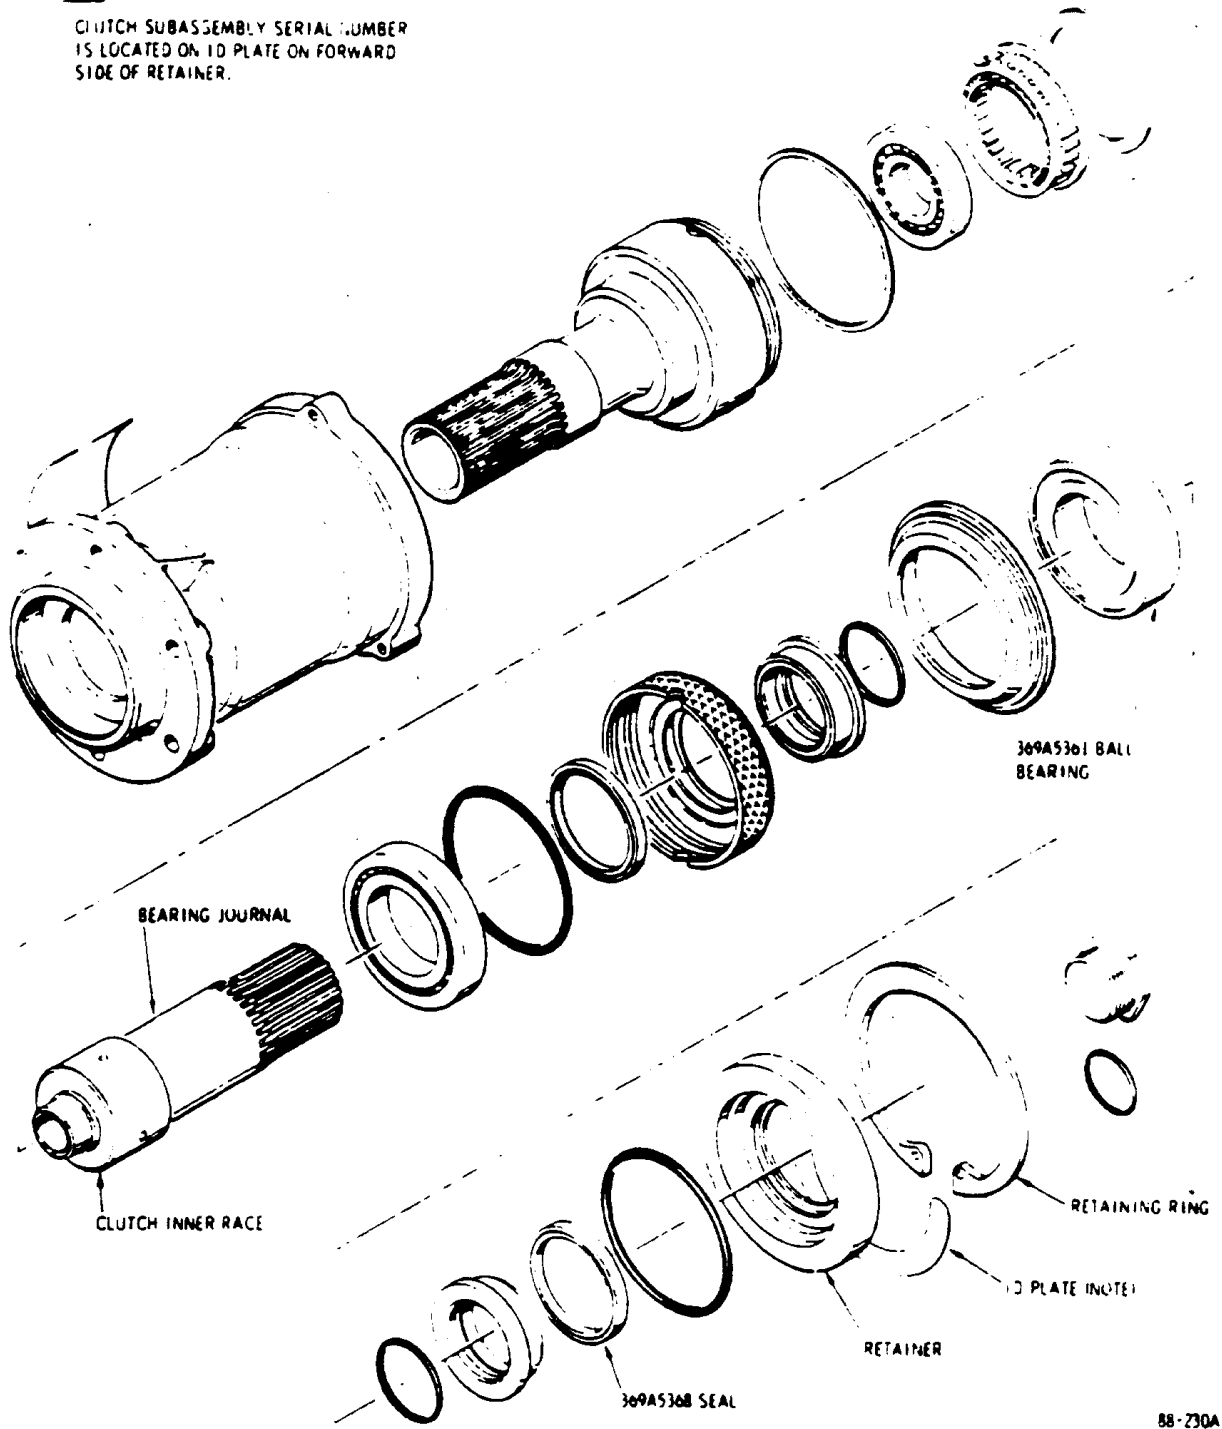

Figure 1. Overrunning clutch assembly.
- (3). Temporarily install coupling bolt, to maintain internal fluid.
- (4). Remove clutch retainer to expose 369A5361 ball bearing (see Figure 1).
- (5). Check 369A5361 ball bearing for excessive loss of grease.
(3). Remove clutch retainer to expose 369A5361 ball bearing (See Figure 1).